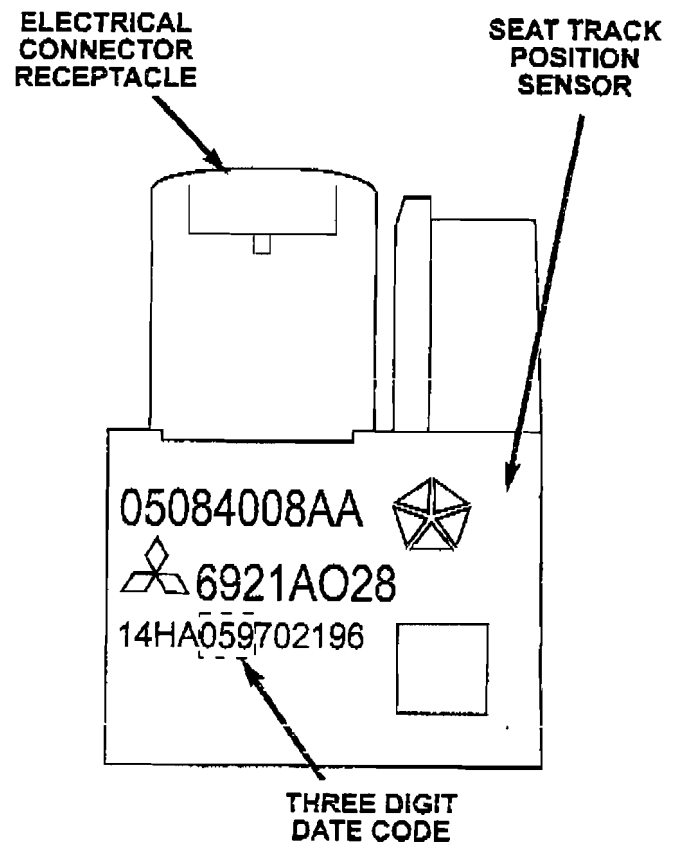

Figure 4
8. Check the date code on the seat track position sensor (Figure 4):